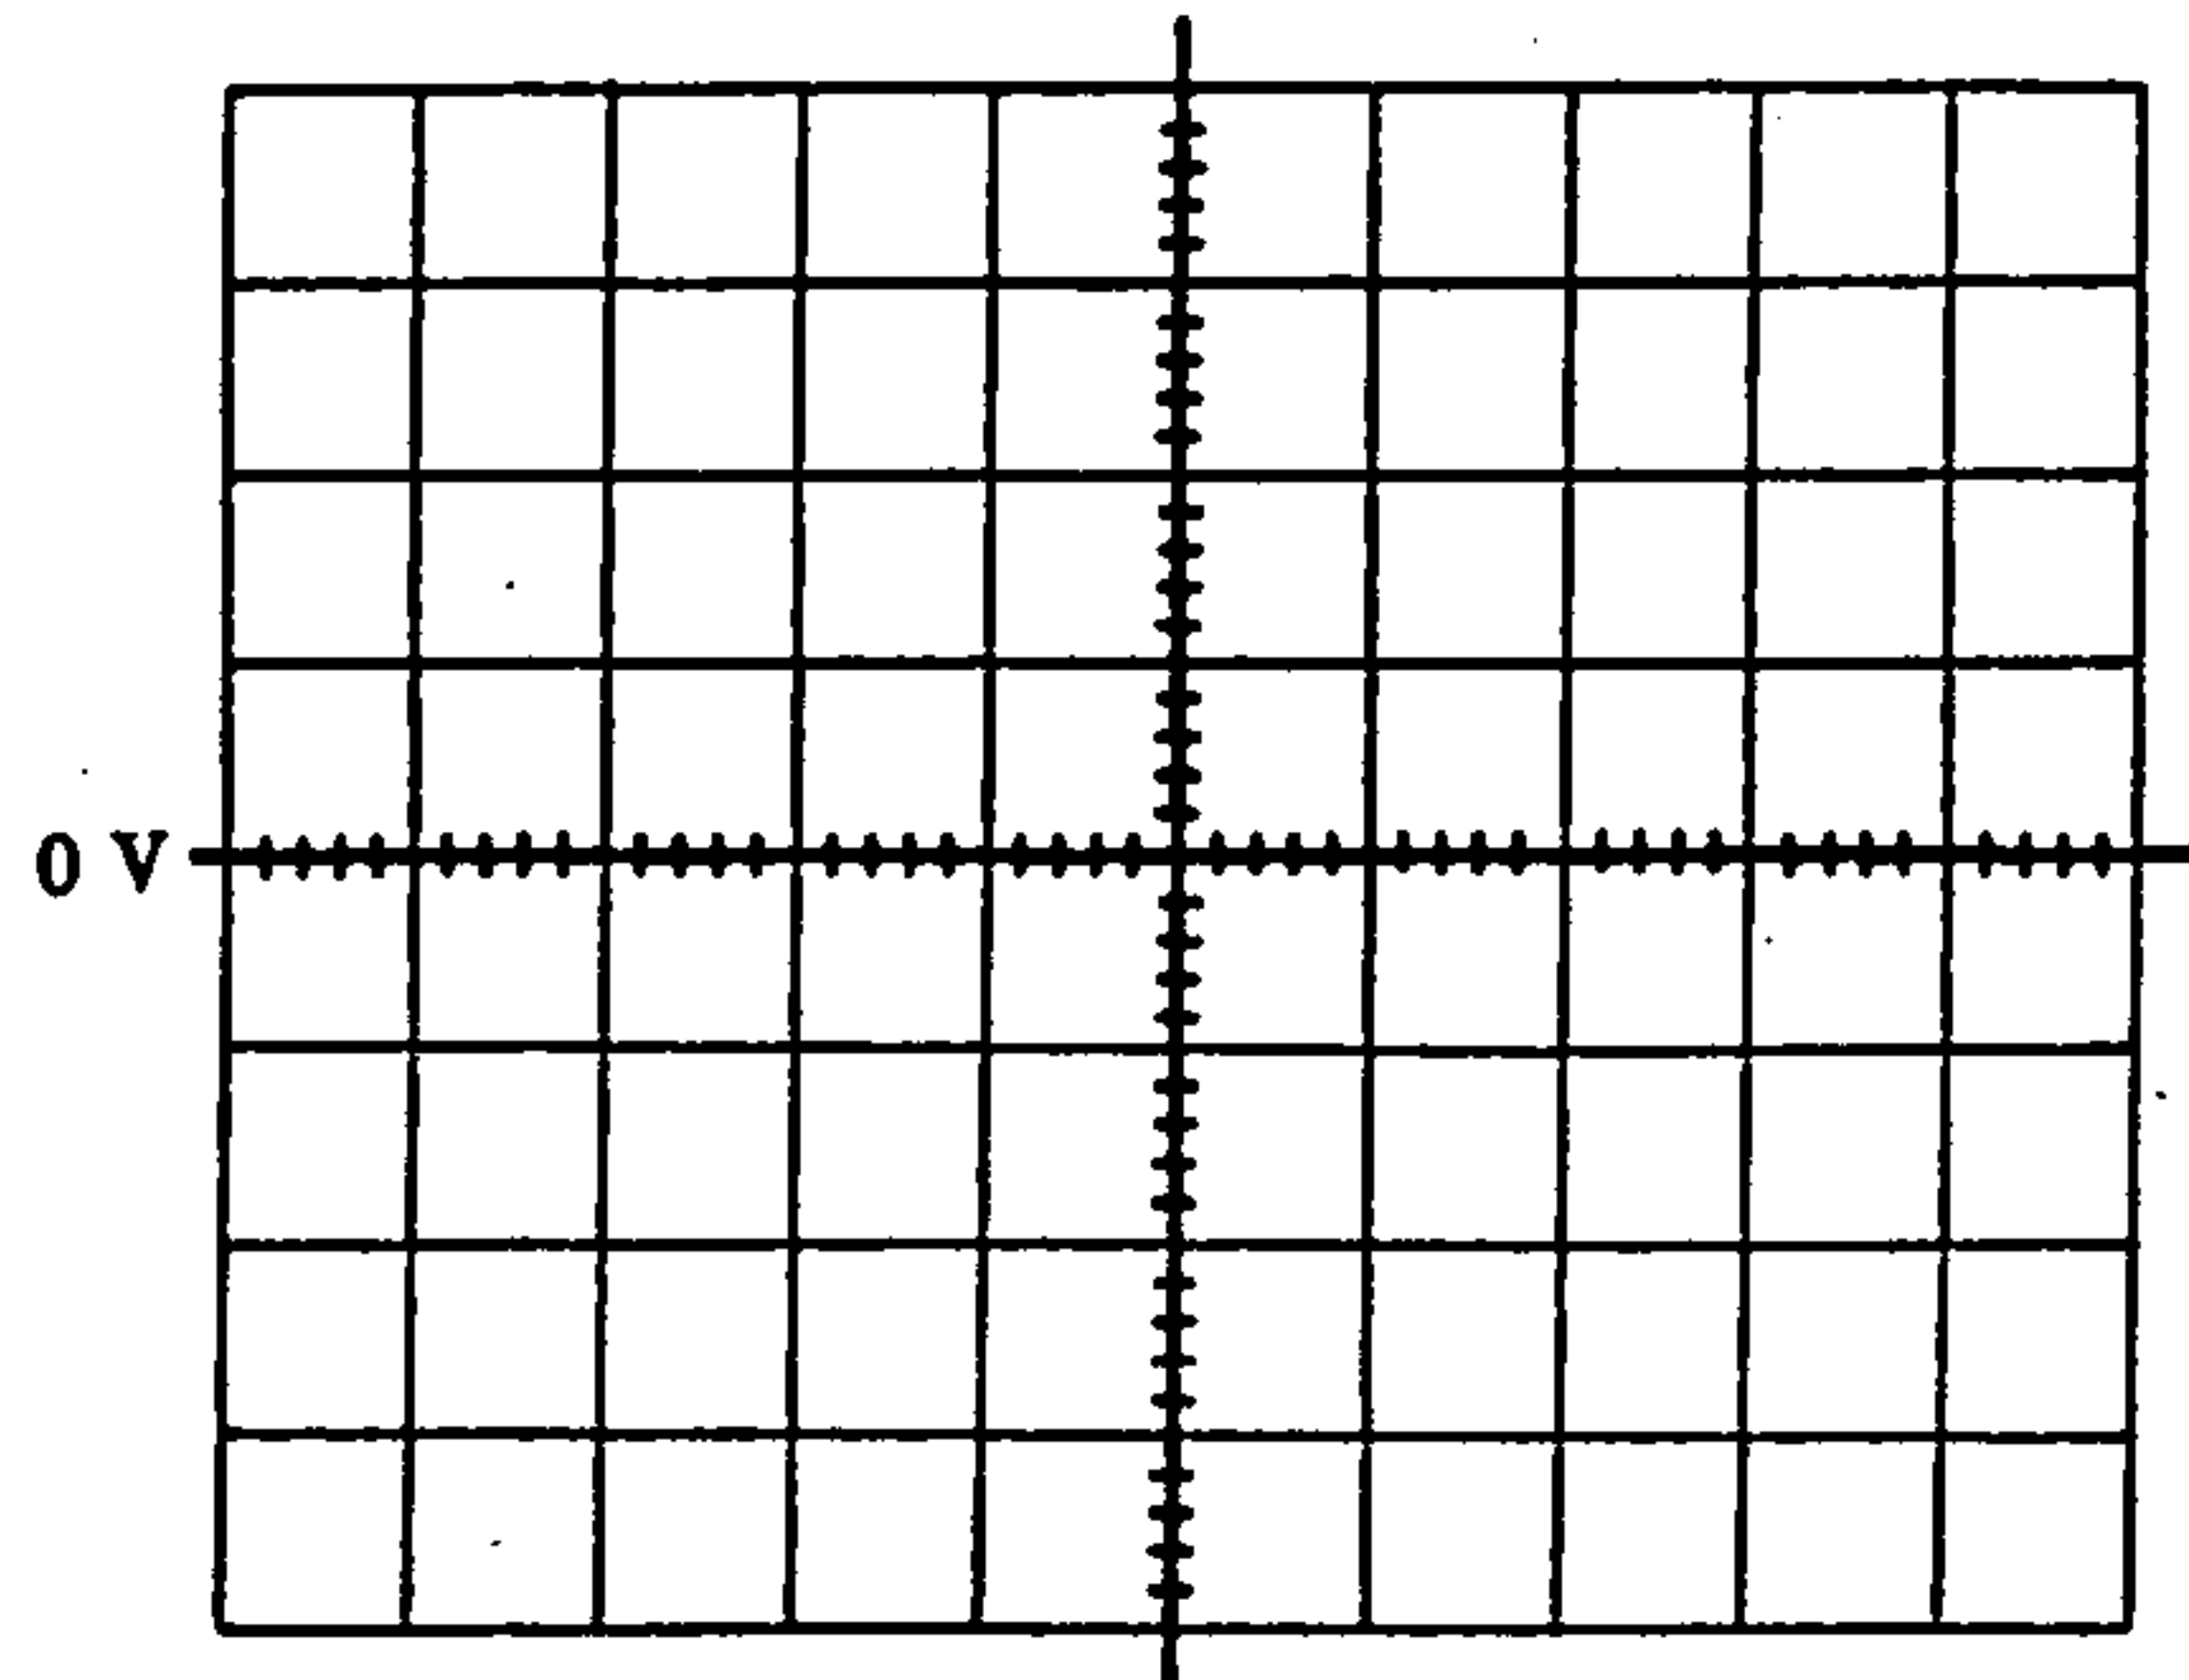
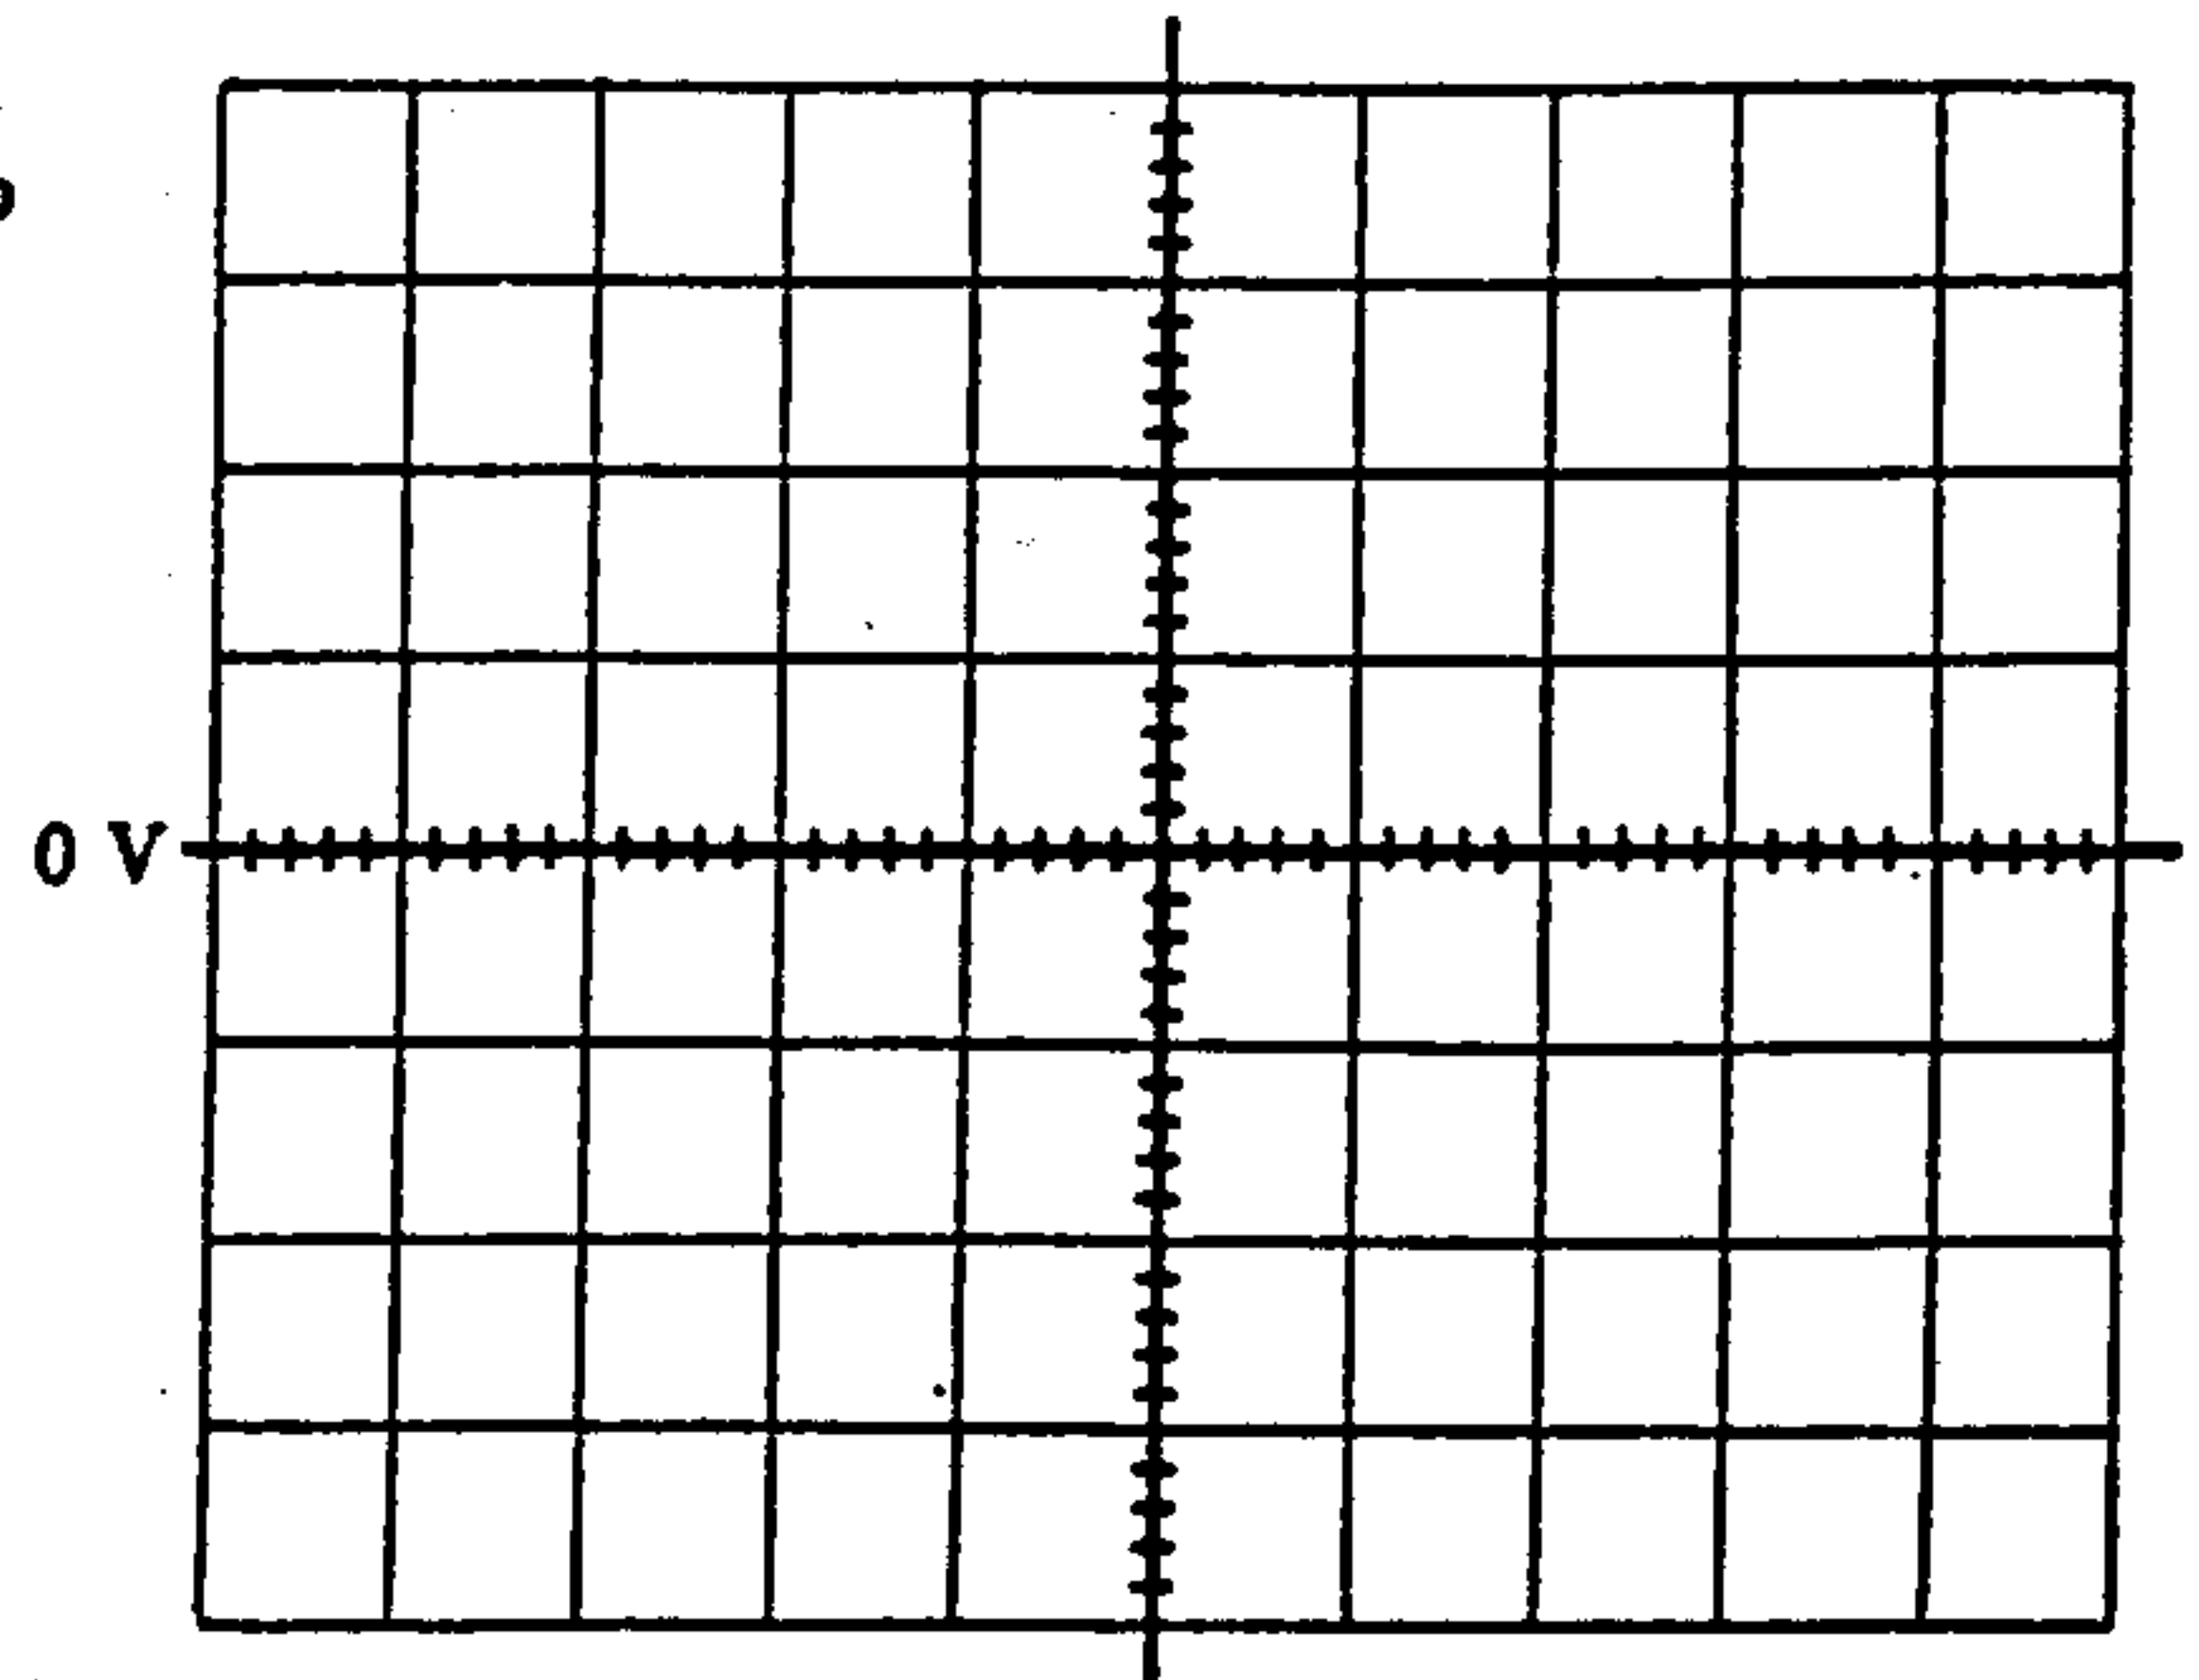

Figure 6-7
Figure 6-8
- d. Using the results of Parts 3(b) and 3(c) sketch the expected waveform for  $v_o$  on Fig. 6.7. Use the horizontal center axis as the  $V_o = 0$  V line. Record the chosen vertical and horizontal sensitivities below:
- e. Using the sensitivities of Part 3(d) use the oscilloscope to view the output waveform  $v_o$ . Be sure to preset the  $V_o = 0$  V line on the screen using the GND position of the coupling switch (and the DC position to view the waveform). Record the resulting waveform on Fig. 6.8.
How does the waveform of Fig. 6.8 compare with the expected waveform of Fig. 6.7?